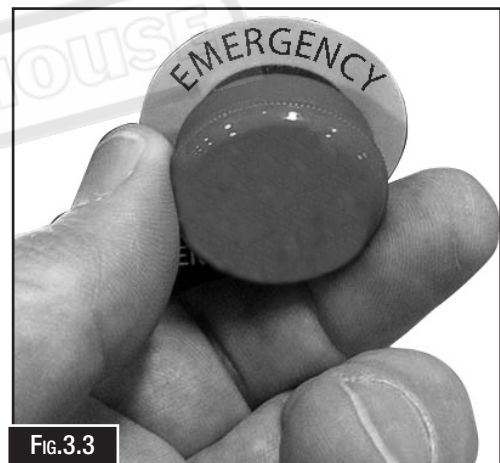

Fig.3.3
**EMERGENCY STOP Button:** Cuts power to the spindle motor and remains depressed until reset. Twist clockwise until it pops out to reset. (Fig.3.3)